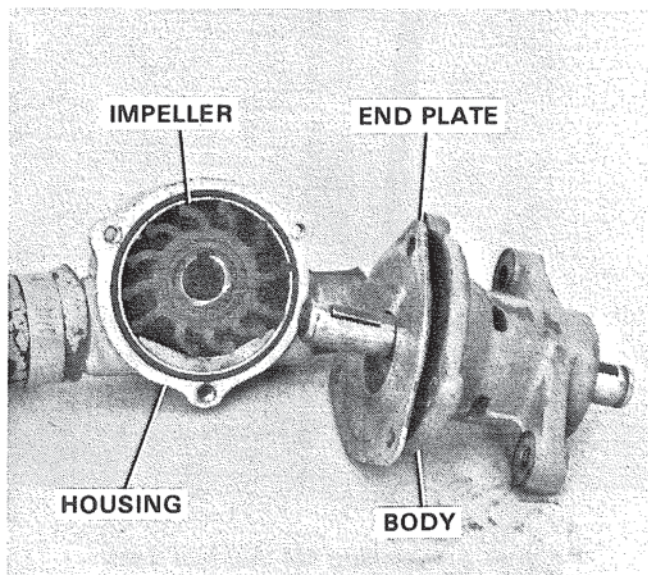

Figure 14. Installing Pump.
2. Install belt over pulley and tighten mounting nuts securely when proper belt tension has been reached. Figure 14. Reinstall inlet and outlet hoses and clamps.